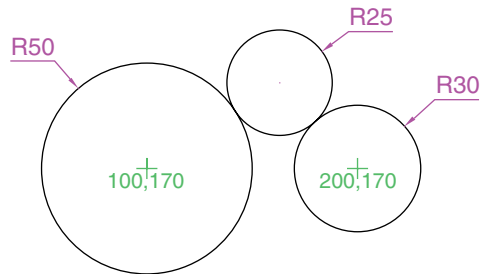

Fig. 2.32 Exercise 4
- Using the **Circle** tool, construct the two circles of radius 50 and 30. Then, using the **Ttr** prompt, add the circle of radius 25 (Fig. 2.32).